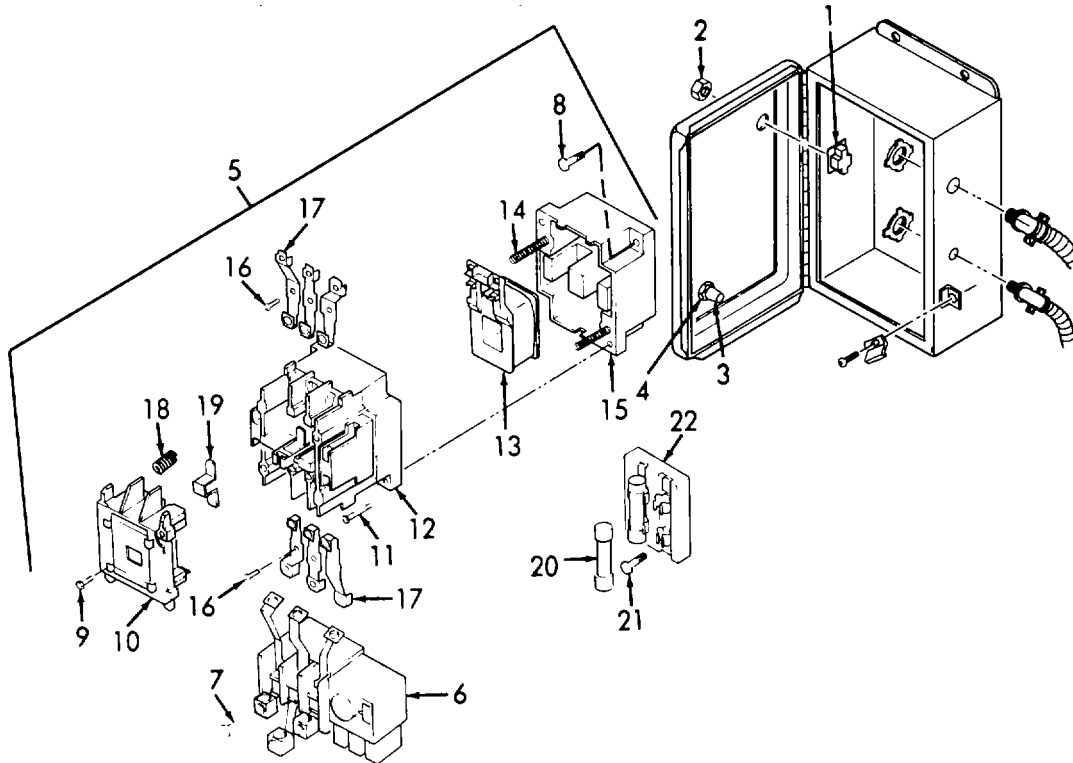

Figure 3-4. Starter Box, Disassembly.
- (4) Remove nut (5) and then remove conduit (6).
- (5) Tag and disconnect pressure switch wiring (7).
- (6) Remove nut (8) and then remove conduit (9).
- (7) Remove four bolts (10), four lockwashers (11), and motor starter box (12).
h. Disassembly. (Refer to Figure 3-4).